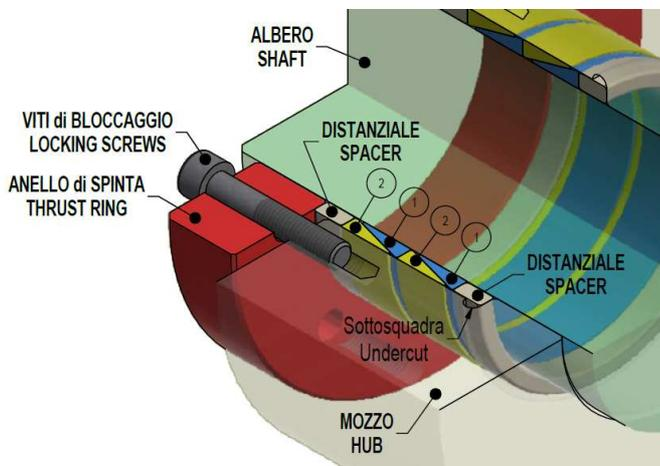

Fig. 2. Design example w/ tapped hub.
- **The Locking Element shall be tightened by means of one customer design thrust ring* and a set of locking screws, which shall be tightened into threaded holes tapped in the hub or shaft's end (fig. 2, 3). Installation may also require spacers. Tightening hardware and spacers are not supplied by MAV S.p.A.**
Locking Elements MAV 3003 shall be tightened by means of one customer design thrust ring and a set of locking screws, which shall be tightened into threaded holes tapped in the hub or shaft's end (fig. 2). Installation may also require spacers. Tightening hardware and spacers are not supplied by MAV S.p.A.